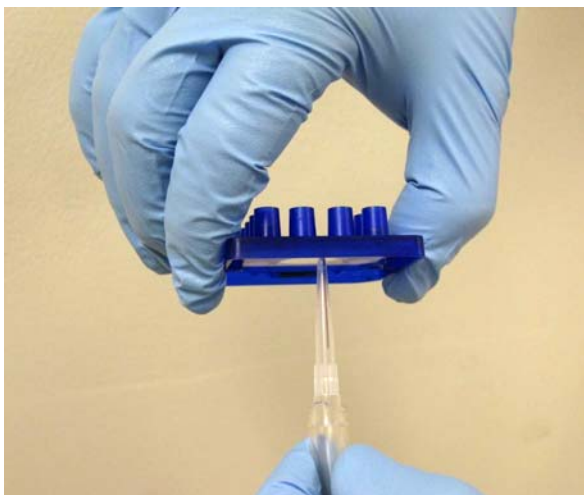

Figure 21. Removing an air bubble or clog by suctioning the sipper with a vacuum line.
- If air bubbles are not dislodged after a reprime, apply a vacuum to the sipper. Perform this by filling all active wells with 100 μ L of Chip Storage Buffer. Then suction the sipper with a vacuum line as shown in Figure 21 until droplets of fluid flow out from the sipper. When suctioning the sipper, be careful not to bend or break the sipper. To facilitate this, cut the end of the pipette tip attached to the vacuum line to widen the mouth.